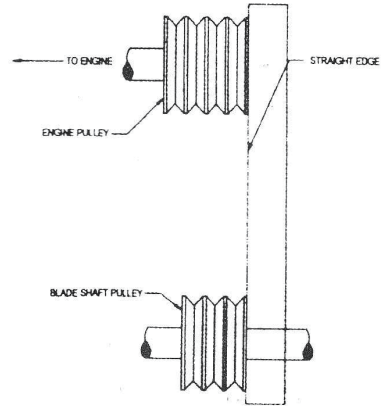

Figure 1
2. Take up tension until the belts are snug in the grooves. Run the drive for about five (5) minutes to "seat" the belts. The belts. The impose the peak load. If the belts slip, tighten them until they no longer slip at peak load. Most new belts will need additional tensioning after seating.
6. To check alignment, use a steel straight edge. See Figure 1.
7. Line up the straight edge along the outside face of both pulleys shown in the drawing. All pulleys have (2) set screws in the bottom of their grooves. Set screws require thread locking locking lock title.